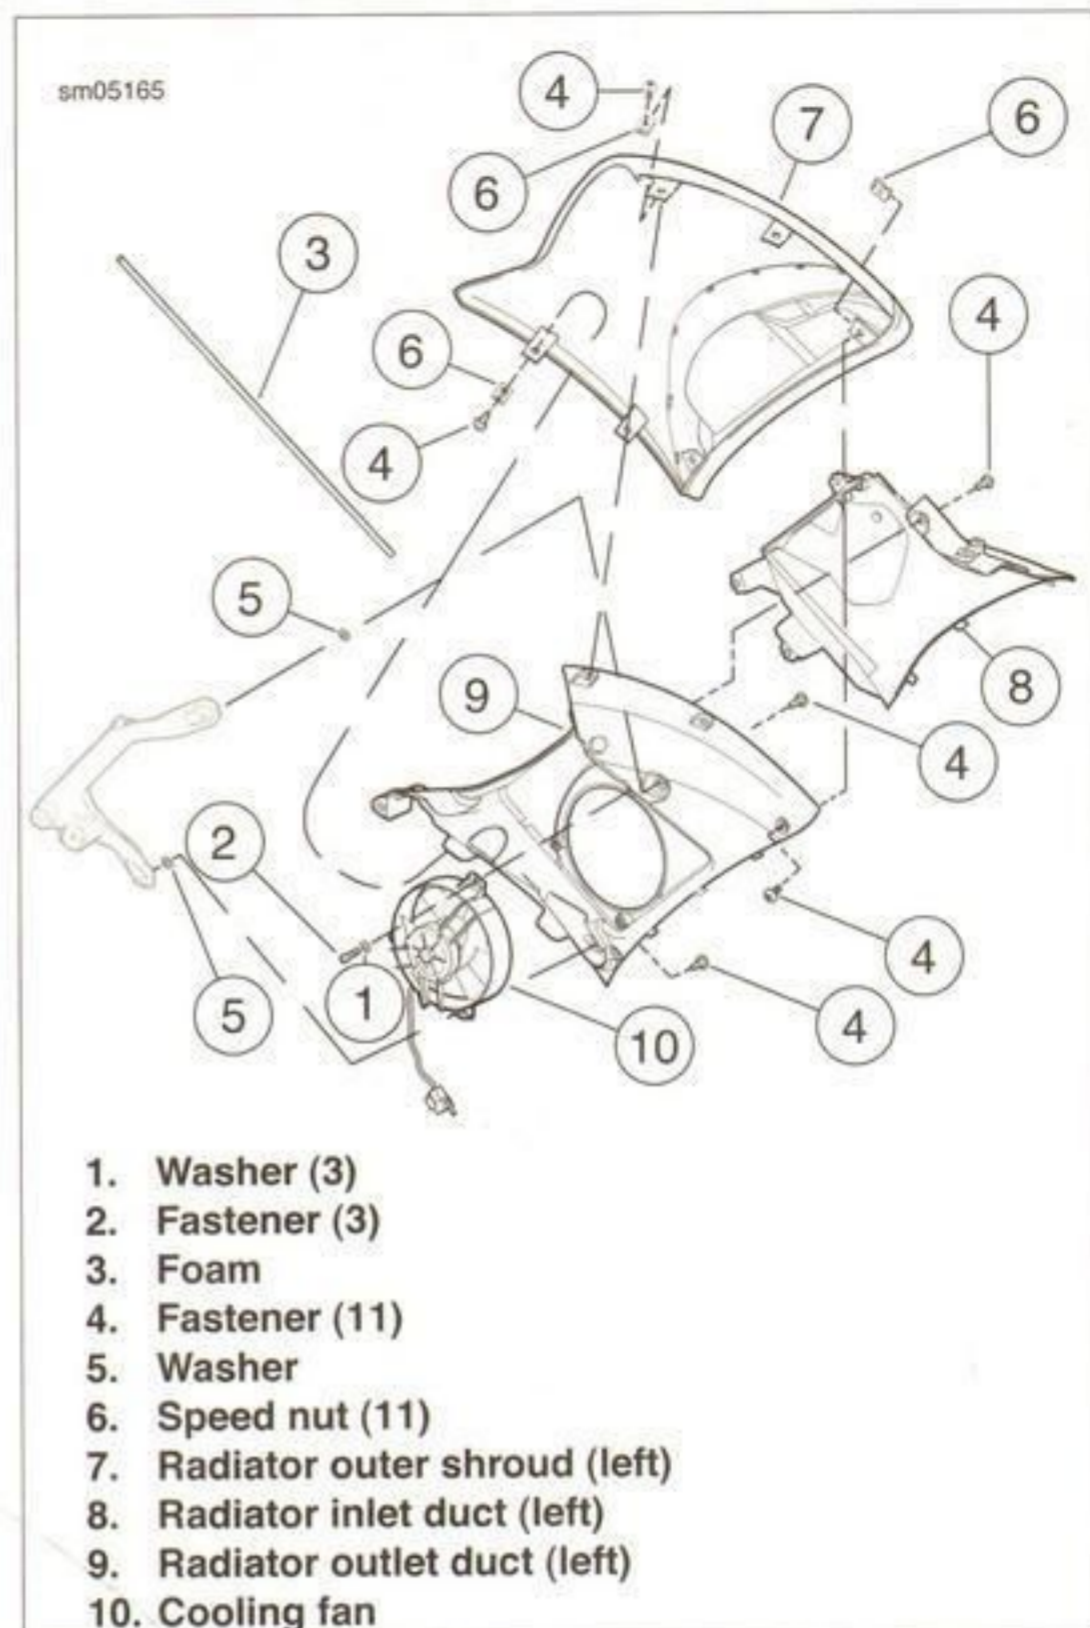

Figure 7-130. Left Side Cooling Fan Components
1. See Figure 7-130. Install cooling fan (10).
2. Install cooling fan washers (1) and fasteners (2) and tighten fasteners to 9.7-10.9 Nm (86-96 **in-lbs**).